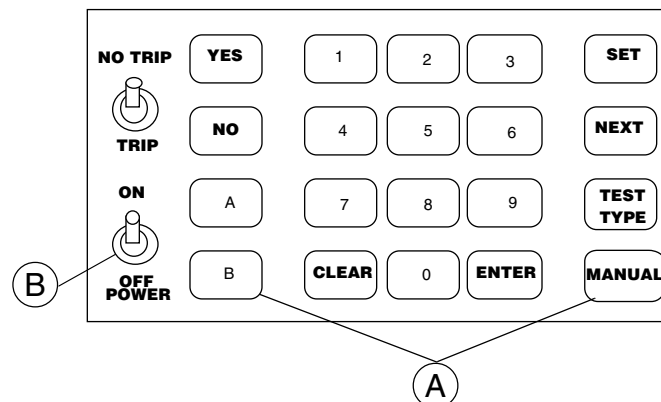

Figure 4: Test System Console
- b. "TEST SYSTEM KEY LIGHTS?-YES/NO" checks the systems key backlights for proper operation. If backlights are not being tested, press NO key. To check operation of backlights, which are located behind the eight system keys (A) in Figure 4, press YES key. The display will step through the test with lights flashing in sequence down the rows. If display indicates "SYSTEM LIGHTS TEST FAILED," see step 10A.
11. Turn test set power switch (B) in Figure 4 to OFF.